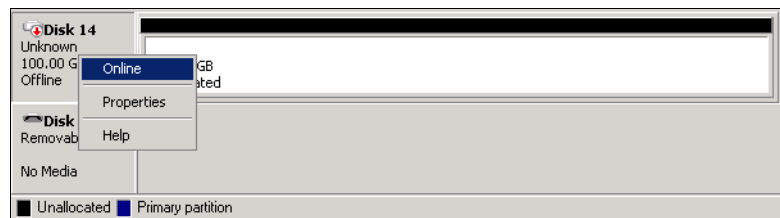

Figure 5-28 Place a disk online
- Right-click the disk in the left pane and select **Online** (Figure 5-28).